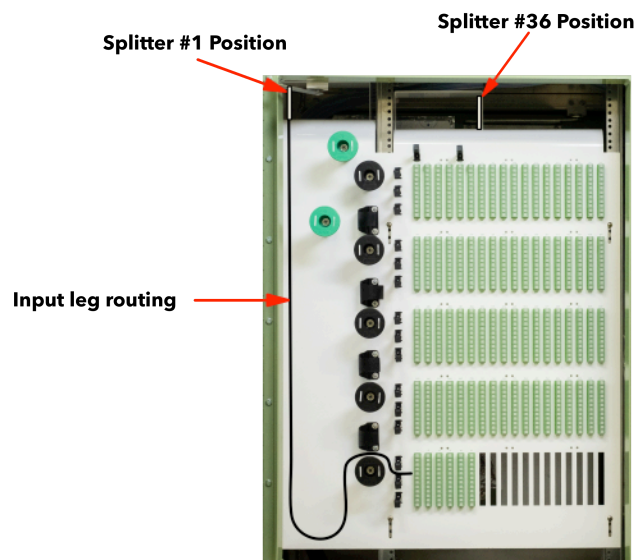

Fig 6. Splitter Install
Within the cabinet, the distribution cables are secured to tie-down points on the floor of the cabinet and the rear of the distribution rows. Each sub-unit is fanned out into 12 individual fibers, each of which is terminated with an SCapc connector. 216 individual fibers are routed to the back of each distribution row. Each fiber is connected to a specified bulkhead adapter within the specified distribution row. See Figure 6 below for distribution port locations.
6. Route the input leg from the splitter toward the feeder row, follow the path shown in Fig 6.